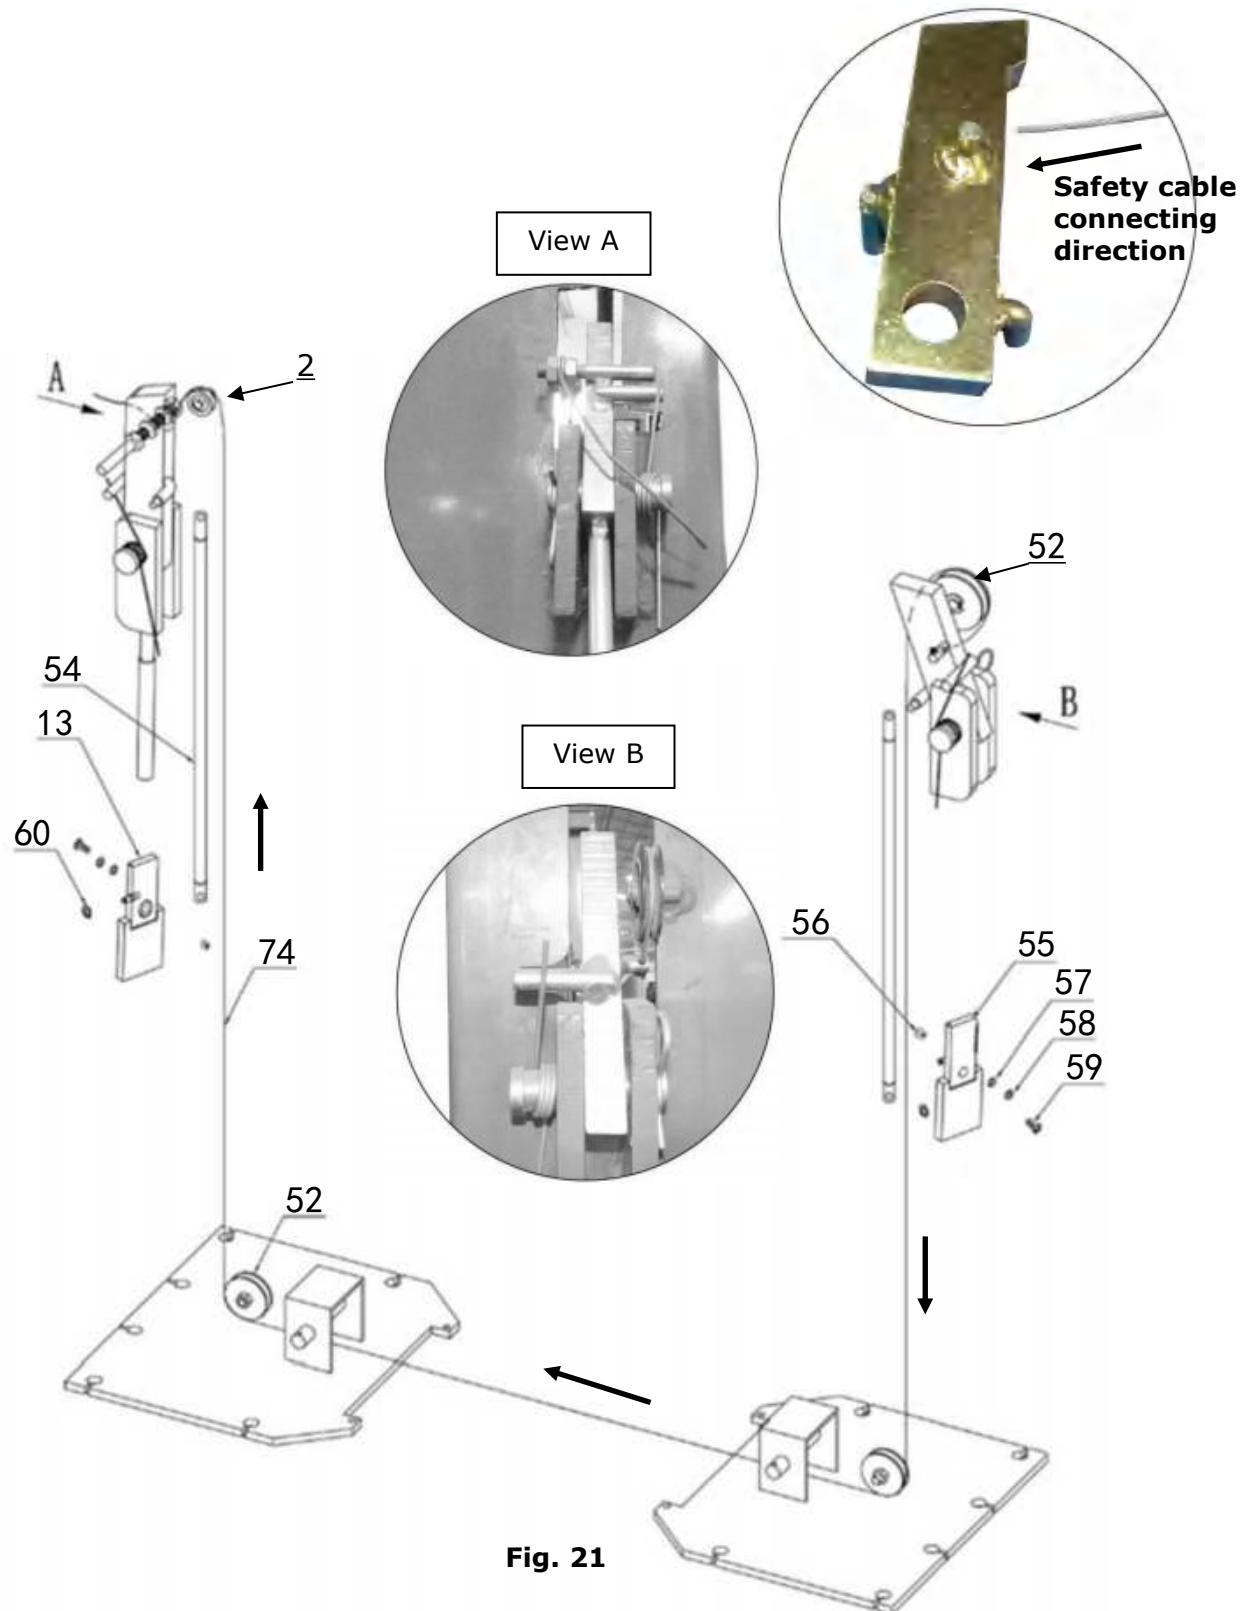

Fig. 21
L. Install safety cable (See Fig. 21).